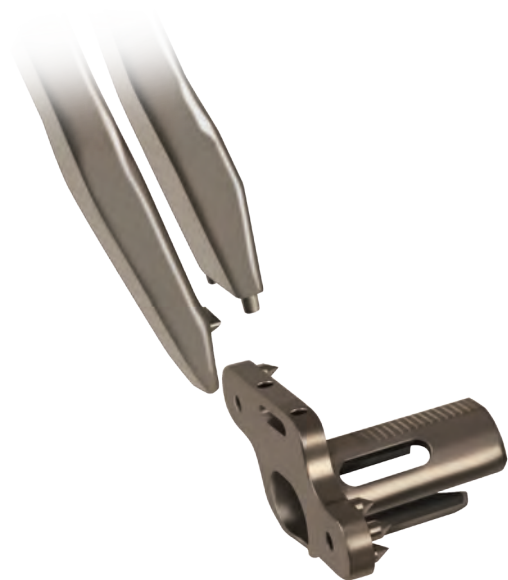

Figure 13
- Attach the post plate implant to the post plate inserter. The small pins on the inserter tip engage the holes in the top aspect of the post plate (**Figure 13**).